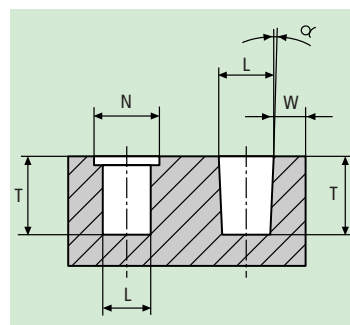

Fig. 23
Hole diameter (L, fig. 23) and wall thicknesses (W) are dependent on the material used for the formed part, the insertion method and the requirements imposed on pull-out resistance / torque safety. Please inquire or ascertain by testing.
(fig.23).